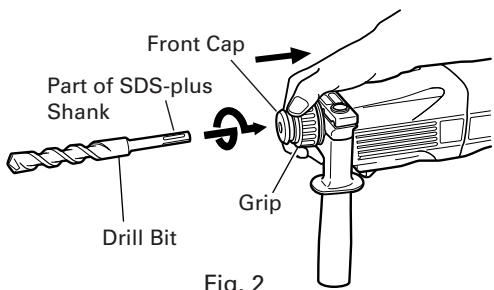
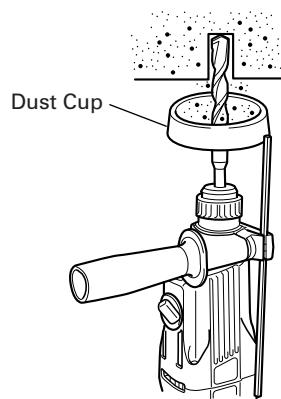
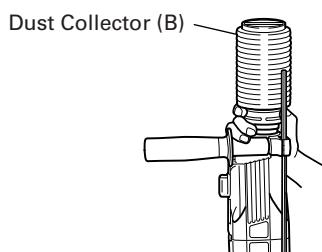

Fig. 2
Fig. 3
Fig. 4
6. Mounting the drill bit (Fig. 2)
- (1) To attach a drill bit (SDS-plus shank), fully pull the grip in the direction of the arrow as shown in Fig. 2 and insert the drill bit as far as it will go while manually turning.
- (2) By releasing the grip, the drill bit will be secured.
- (3) To remove the drill bit, fully pull the grip in the direction of the arrow and pull out the drill bit.
7. Installation of dust cup or dust collector (B) (Optional accessories) (Fig. 3, Fig. 4)
Use the dust cup by attaching to the drill bit as shown in Fig. 3.
When using dust collector (B), insert dust collector (B) from the tip of the bit by aligning it to the groove on the grip. (Fig. 4)